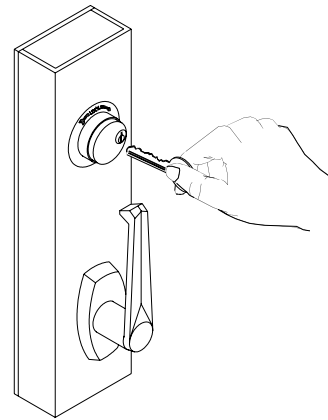

Fig. 1-1
2. Insert your key into the cylinder lock and turn the key to the locking direction as illustrated in Fig. 1-1.
3. The key holder may preset the lock by following step 2 and leaving the "L" handle in the upward position as shown in Fig. 1-1. This allows a person without a key to lock the closure at a later time by following step 1.